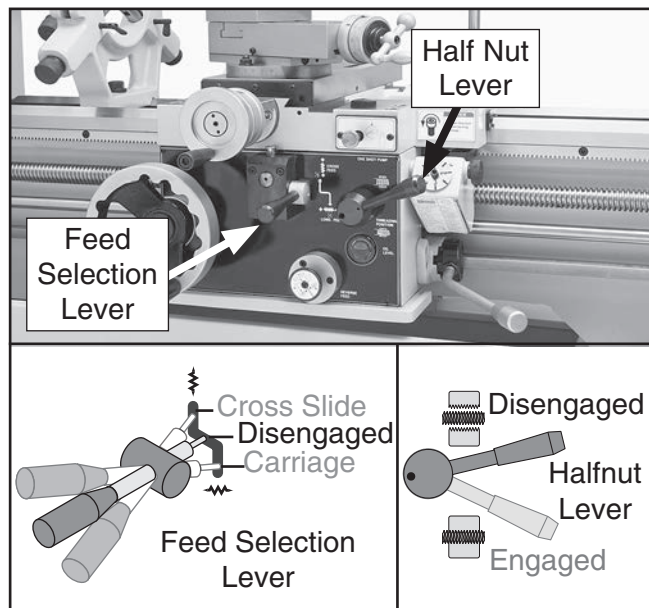

Figure 28. Disengaging carriage components.
- To ensure the carriage components do not unexpectedly move during the following steps, disengage the half nut lever and feed selection lever (see **Figure 28**).